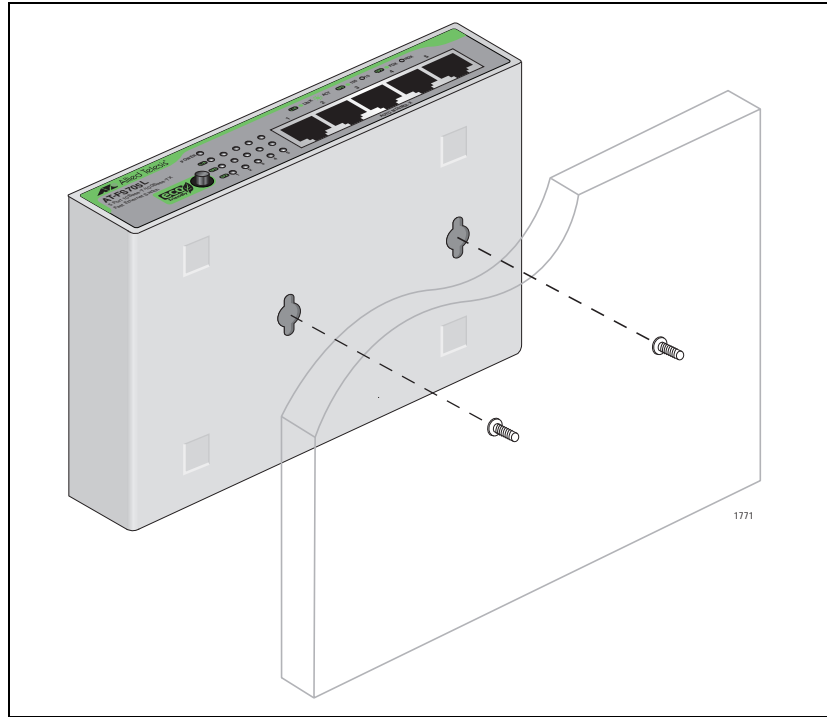

Figure 5. Wall Mounting an AT-FS705L Switch
7. Align the switch horizontally. And then position and hang the switch onto the wall using the two keyhole slots located in the bottom of the switch, as illustrated in Figure 5.